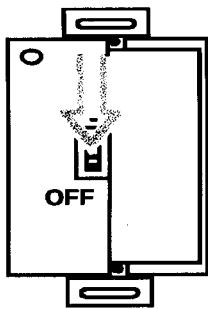

Figure 1
1. Make sure the slide switch on the Remote Receiver is at the OFF position. See Figure 1.